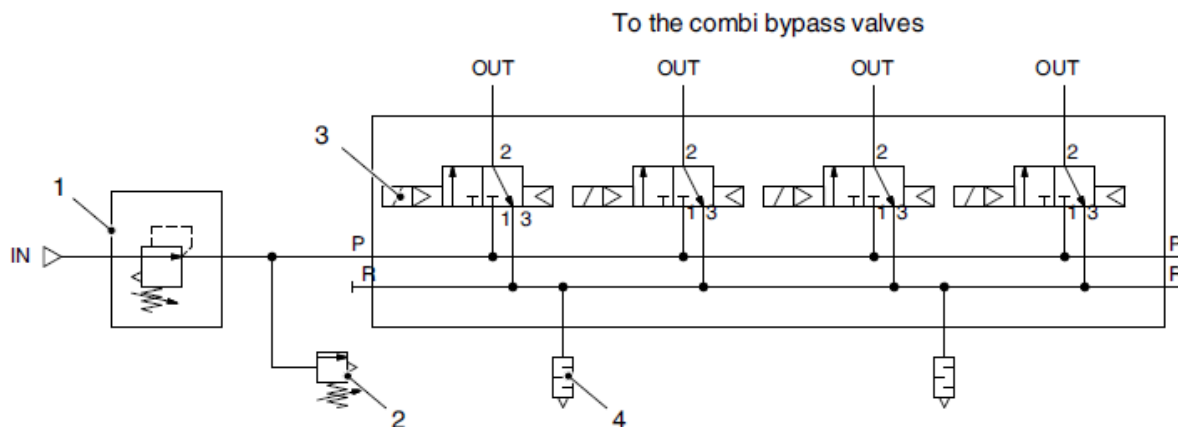

Figure 2-39 Pneumatics diagram - example P/N 7085250 (quad, without cable harness)
The inlet pressure is 6 bar. The pressure reducer (1, Figure 2-39) with secondary air relief (2) keeps the outlet pressure steady at a fixed value of 4 (-0.2) bar. The pneumatic safety valve (2) is set to 4.4 bar and cannot be modified.